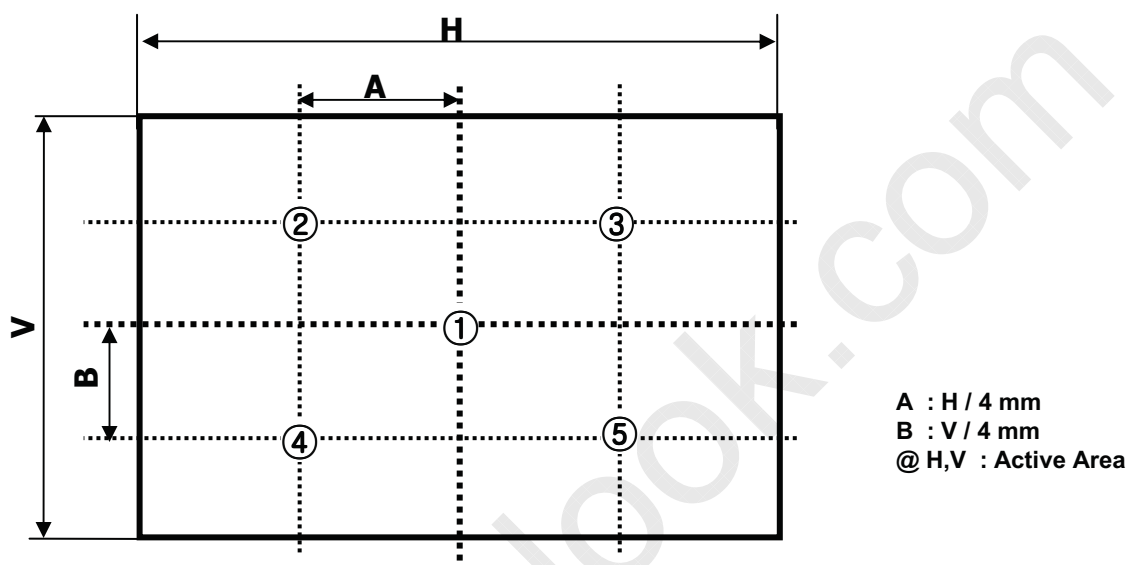

FIG. 2 5 Points for Luminance Measure
2. Surface luminance are determined after the unit has been 'ON' and 30min after lighting the backlight in a dark environment at $25 \pm 2^\circ\text{C}$. Surface luminance is the luminance value at center 1-point across the LCD surface 50cm from the surface with all pixels displaying white. For more information see the FIG. 2.
For more information, see FIG 2.